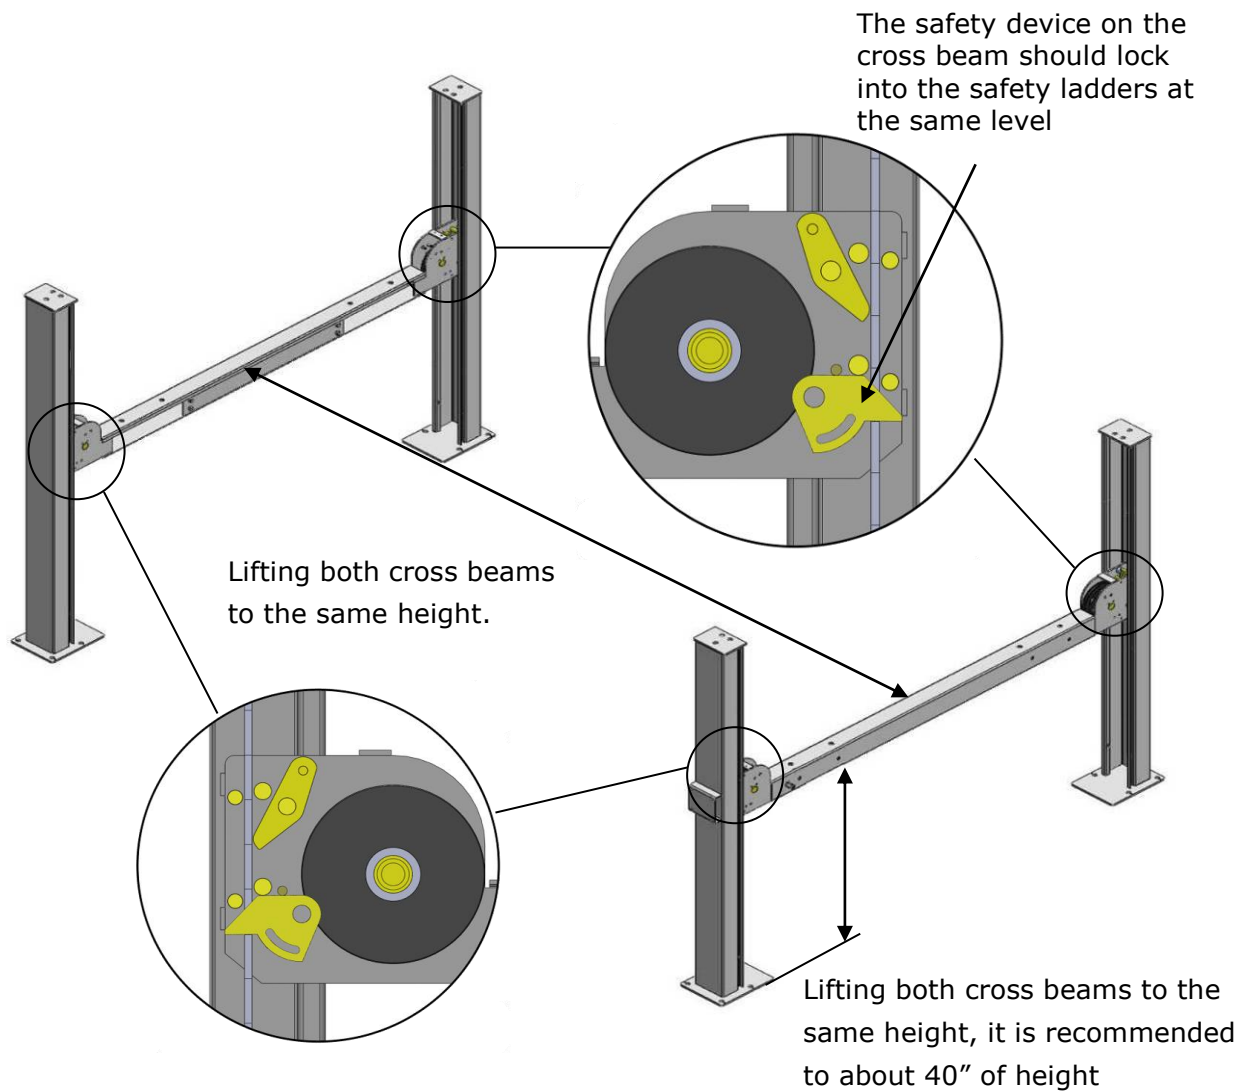

Fig. 15
E. Put the cross beams at the same height and lock on the safety ladder (See Fig. 15).
1. Install the power side platform on the cross beams by a fork lift or manual, offset the cross beams to the outside till the pulleys of both platforms can rest into the cross beams' slots (**See Fig.15**), Install the power side platform and screw up the bolts.